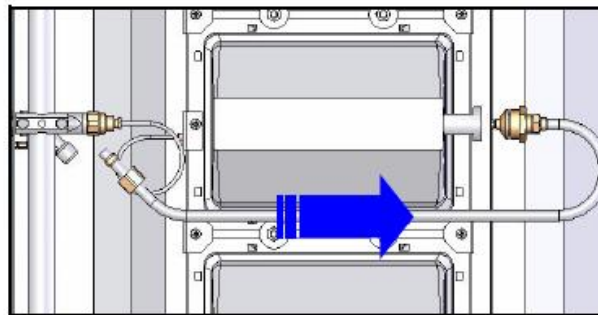

Figure 4
- Pull and Remove Gas Supply Pipe from radian gas inlet slot (Figure 4).